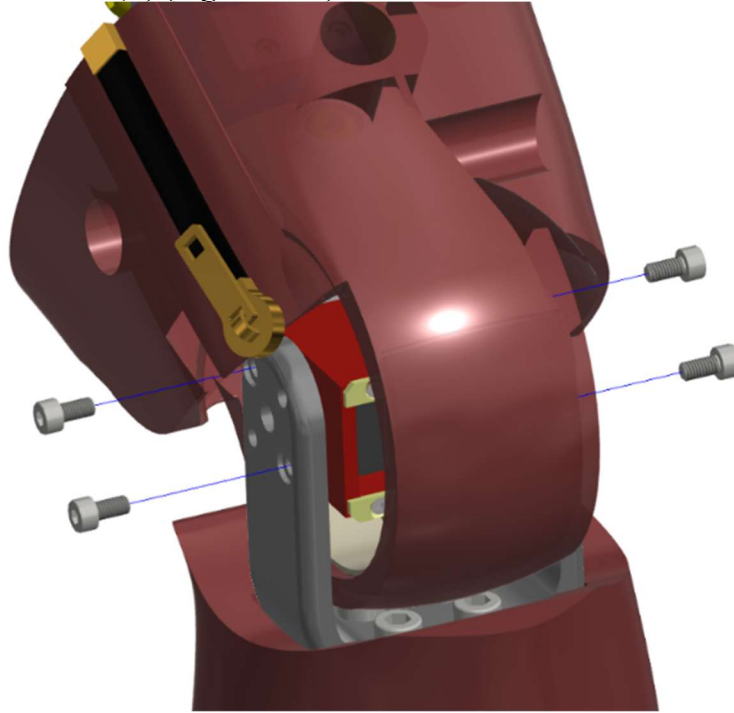

Figure 9-12. Remove the two M4 X 0.7 X 8 LG. SHCS from both sides of the Knee Clevis (474-5517-1,2)
- 9.2.5 Remove the two M4 X 0.7 X 8 LG. SHCS from both sides of the Knee Clevis (474-5517-1,2) (Figure 9-12).